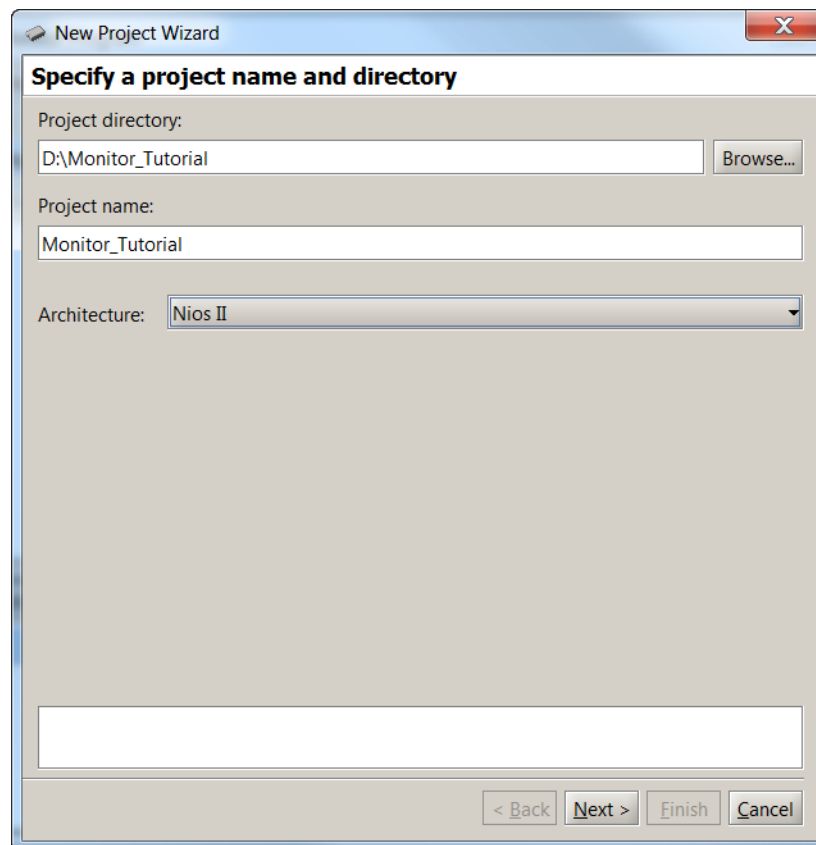

Figure 5. Specifying the project directory and name.
1. Select **File > New Project** to open the *New Project Wizard*, which leads to the screen in Figure 5. The Wizard presents a sequence of screens for defining a new project. Each screen includes a number of dialogs, as well as a message area at the bottom of the window. The message area is used to display error and information messages associated with the dialogs in the window. Double-clicking the mouse on an error message moves the cursor into the dialog box that contains the source of the error.
In Figure 5 we have specified the file system directory *D:\Monitor\_Tutorial* and the project name *Monitor\_Tutorial*. For simplicity, we have used a project name that matches the directory name, but this is not required.
The Monitor Program can be used with either an ARM-based system or a Nios II-based system. The choice of a processor is made in the window in Figure 5 in the box labeled Architecture. We have chosen the Nios II architecture for this tutorial.